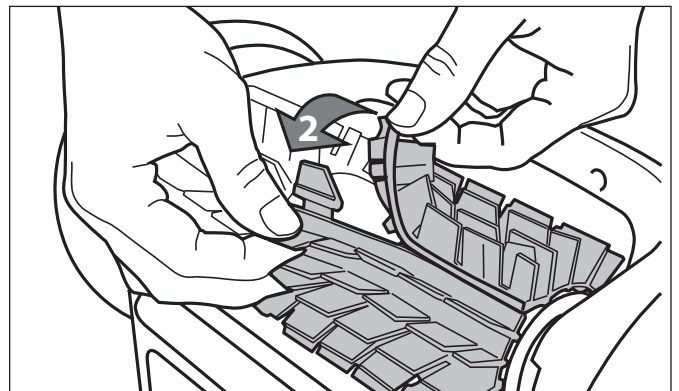

Figure 32. Undo the Tabs of the Brush
2. Separate the edges of the brush and undo the tabs as shown in Figure 32. Remove the worn brushes.